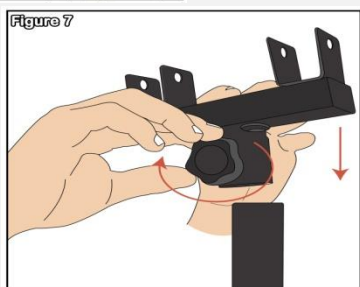

Figure 7
**Step 4** – At the top of the stand, slide in the T-adaptor and tighten the knob to secure the adaptor on top (See **Figure 7**) and set aside.